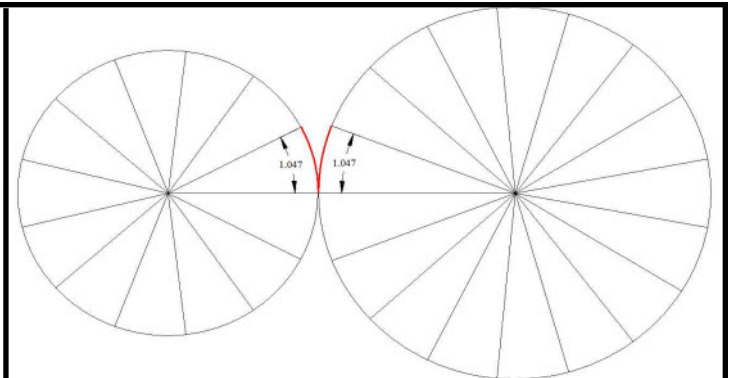

Figure 10
9. on the very first pie-shaped section of both circles change your line color to red and "draw an arc using the center", then dimension both of the arcs. Your drawing should then look like figure 10.